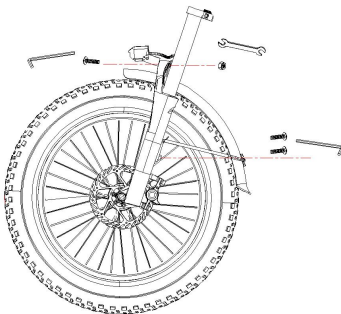

Figure 2-1-7
2.7.Assemble the front mudguard: Put the mudguard and front light on the wheel, and use the NO.4 Allen wrench and No. 10 open end wrench to fixed the mudguard on the front fork. And then use NO.4 Allen wrench put the mudguard support frame fixed to the left and right of the front fork(Figure 2-1-7).